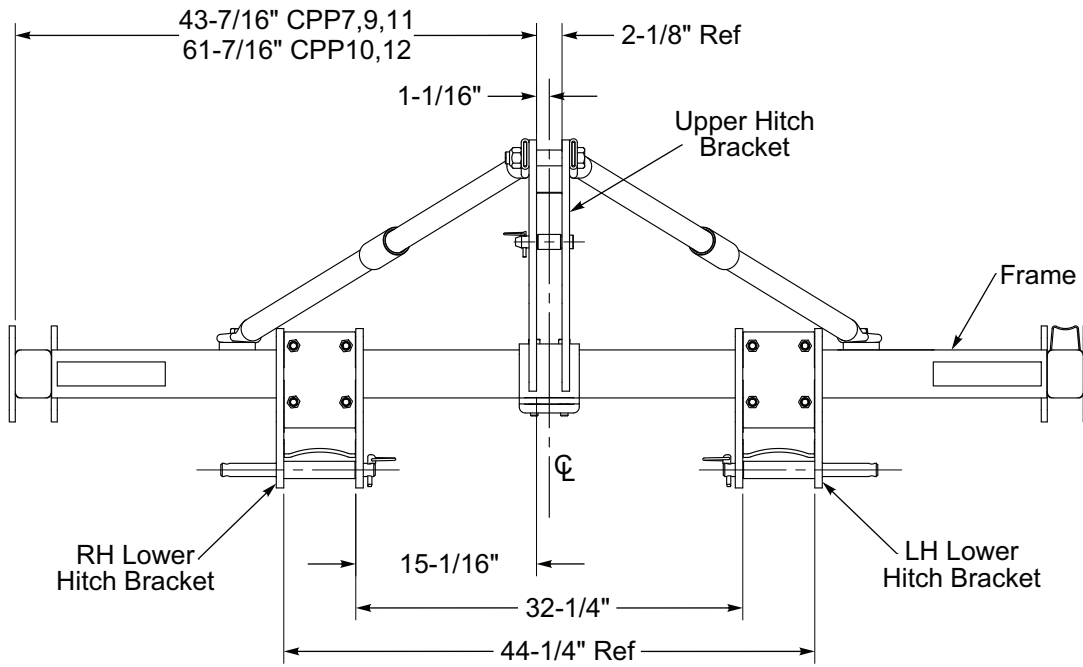

Figure 2-2: Frame Assembly Dimensions
2. **See Figure 2-2** for the dimensional location of the Upper and Lower Hitch Brackets.